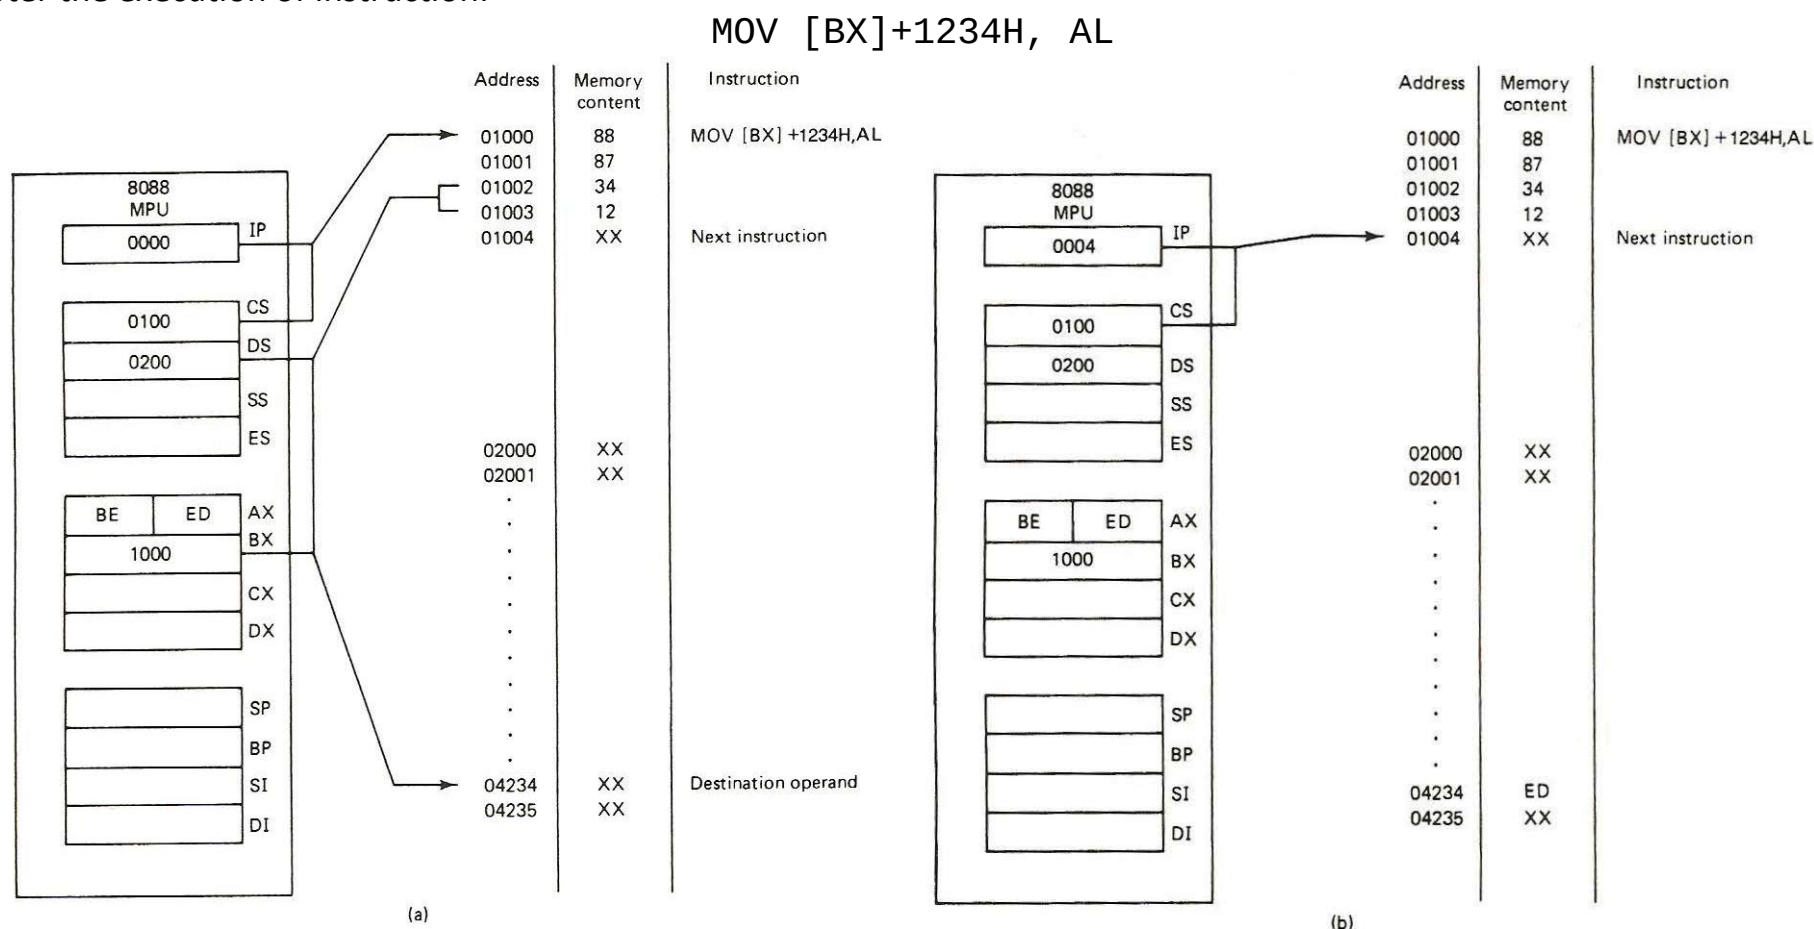

Fig 6(a) before fetching and execution (b) after execution
3.3.3 Based addressing: this mode, the effective address is obtained by adding a direct or indirect displacement to the contents of either base register **BX** or Base pointer register **BP**. Fig 6 below shows the memory and registers before and after the execution of instruction: